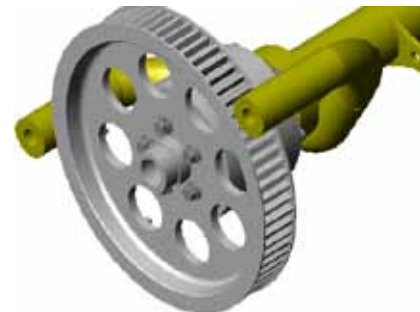

Figure 25
- Install rear drive pulley to CS. supplied Rear Differential using supplied five 7/16" Hex Bolts and five 7/16" Flat Washers. Apply RED Loctite to bolts. Figure 25